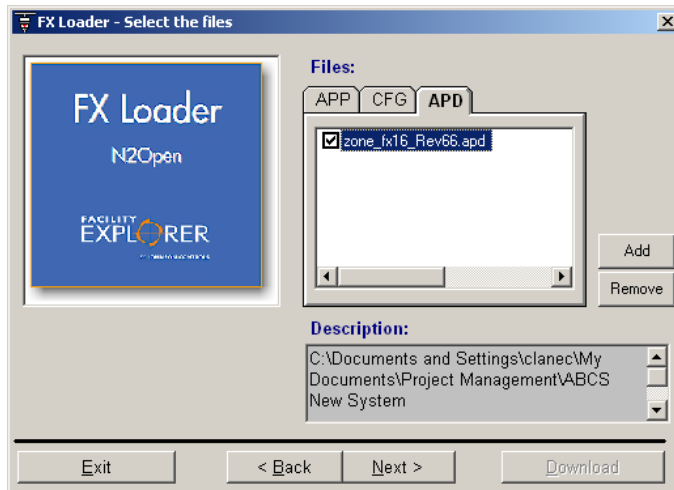

Figure 75: FX Loader - Application Selection
6. Select the application in FX Loader to load (Figure 75).